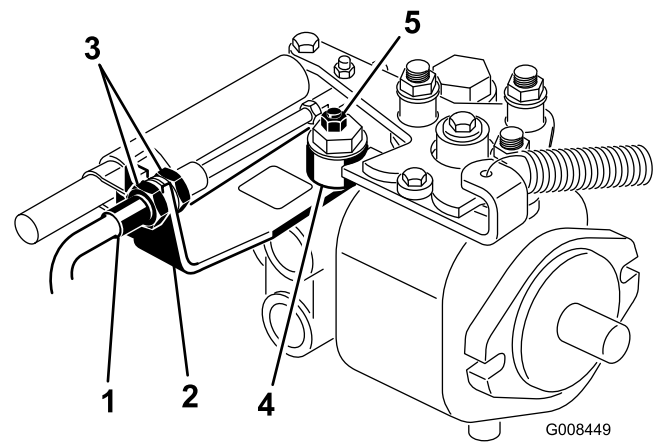

Figure 49
- A. Loosen both jam nuts securing the traction control cable to the bulkhead on the hydrostat (Figure 49). Make sure the jam nuts are loosened equally and sufficiently to allow adjustment.
- B. Loosen the nut securing the eccentric to the top of the hydrostat (Figure 49).
- D. Rotate the eccentric until creep does not occur in either direction. When the wheel stops rotating, tighten the nut locking the eccentric and the adjustment (Figure 49). Verify the adjustment with the throttle in the Slow and Fast position.
- E. From each side of the bulkhead, tighten the locknuts **evenly**, securing the traction cable to the bulkhead (Figure 49). Do not twist the cable.